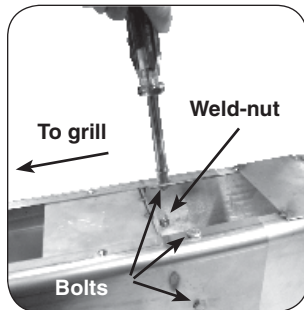

Fig. 3-1
1. Attach the extension to the bottom of the grill post so that the open portion is toward the back of the grill and the five (5) holes in the extension line up with the five (5) weld-nuts in the post.
2. From outside the joined post and extension, insert one of the $\frac{1}{4}$ x $20\text{-}\frac{5}{8}$ " bolts (supplied) into each of the five (5) bolt holes and tighten each using a $\frac{7}{16}$ " socket driver or wrench (see Fig. 3-1).